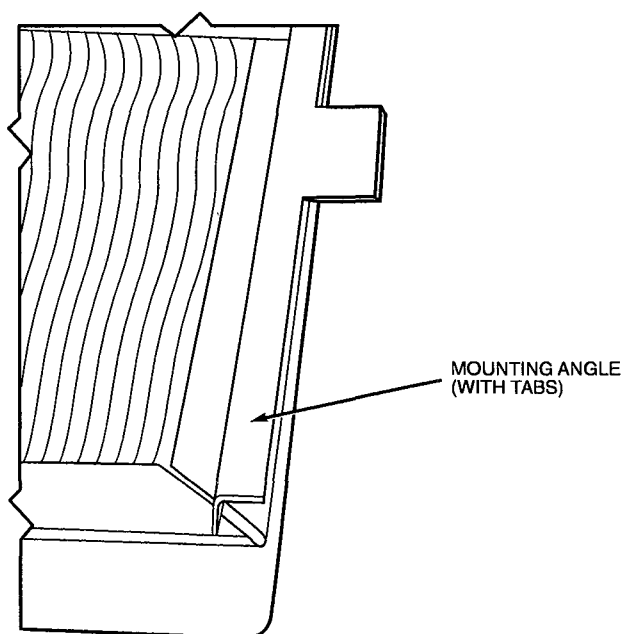

Fig. 28 — Mounting Angle (With Tabs) Attached to Filter Track Assembly
15. Attach remaining mounting angle (with tabs) to other end of the filter track with no. 10 screws provided. See Fig. 28